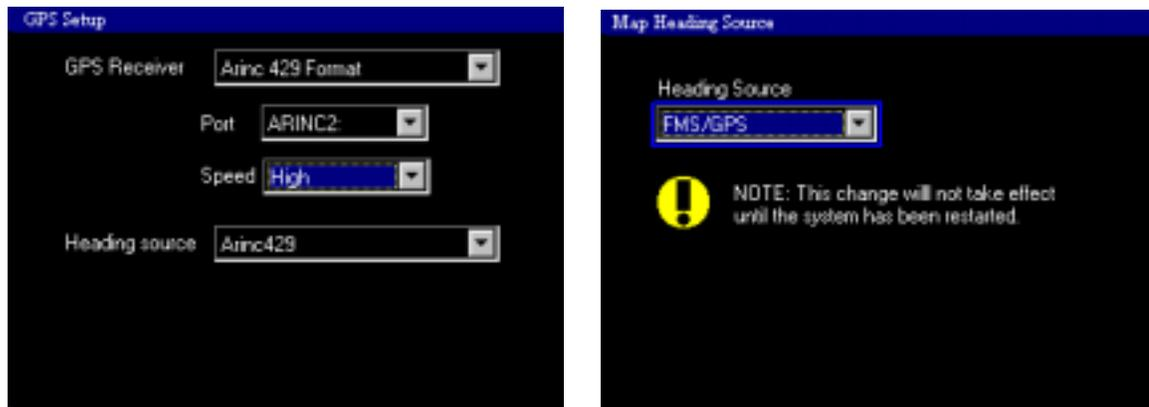

FIGURE 14: GPS Setup Page and the Map Heading Source Page
SYSTEM→DEVICES→GPS→SETTINGS (Figure 14)
5. Use the **Enter** button to return to the DEVICES menu and select Map Heading, this will bring up the Map View Heading Source page (Figure 14).